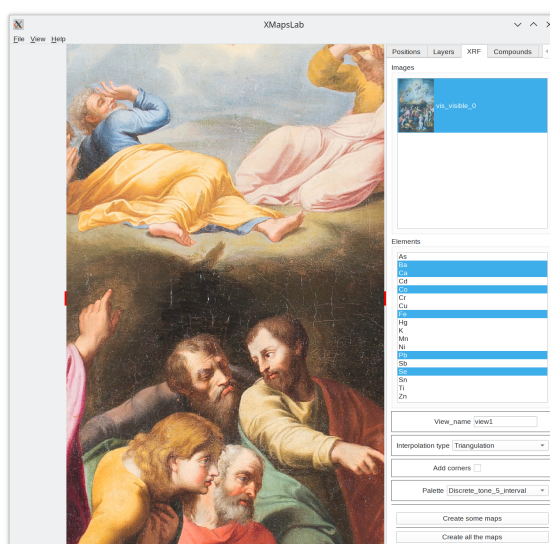

Figure 5.18: The parameters of the Triangulation method are shown.
* **Triangulation** (Figure 5.18)